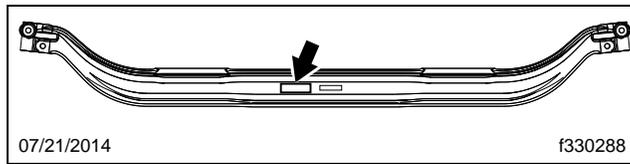

Fig. 4, Meritor Axle Identification Tag
- 19.1 Cut off one king pin eye and place it next to the axle ID tag (see **Fig. 4**).